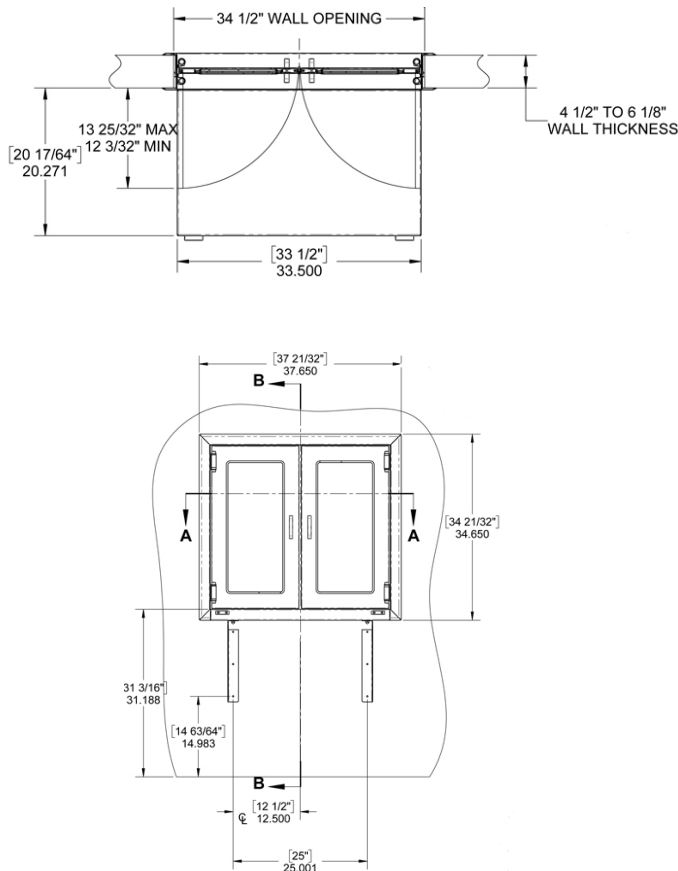

Fig. 1: Overall Front Dimensions
2. The window assembly can be used with a wall thickness from 4 1/2" to 6 1/8". See Figure 1.
4. See Figures 1 and 2 for the overall dimensions.
The Dimensions shown in Figures 1 and 2 are for Pass Through Window Models PTW0001 and PTW0002.